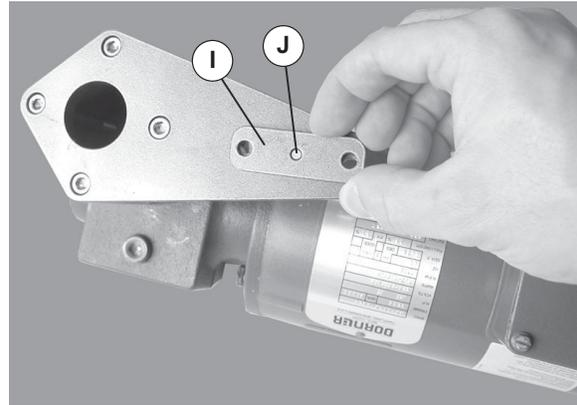

Figure 10
3. Remove gearmotor mount spacer (Figure 10, item I) and pin (J) from the mounting package typical mounting package shown, individual mounting package vary.